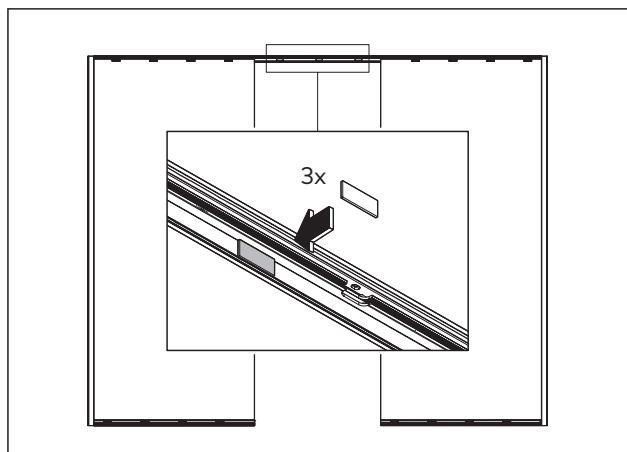

Fig. 4 Sticking the gaskets
1. Stick the gasket (3 per meter) to the mounting profile (Fig. 4).